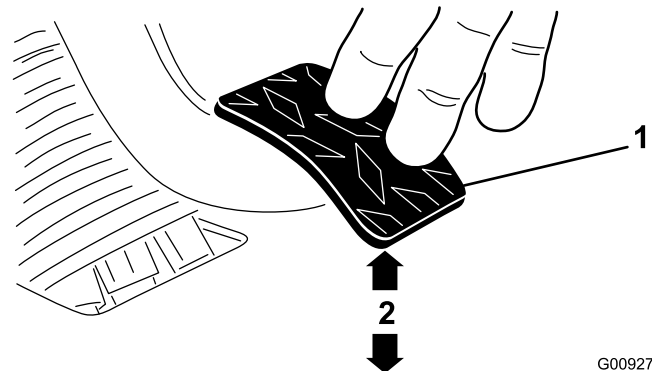

Figure 60
3. Adjust the jam nuts or ball joint until the back, rear edge of the clutch pedal is 9.5 ± 0.3 cm (3.75 ± 0.12 inch) from the top of the floor plate diamond pattern, when an 1.8 kg (4 lb) force is applied to the pedal (Figure 60).